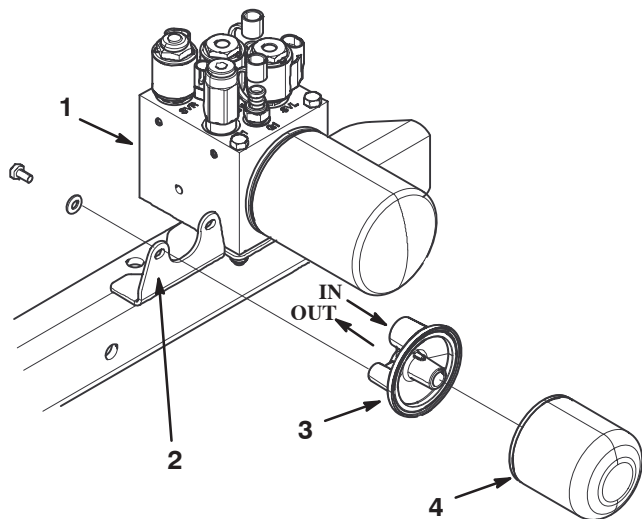

Figure 4
- Remove 5/16-18 x 4.50" cap screws and locknuts securing manifold to frame (Fig. 4).
- Secure manifold and new filter bracket with 5/16" x 5.00" cap screws and locknuts (Fig. 4). (new filter bracket mounts under the manifold frame plate)
- Install new filter head (103-2888) to filter bracket with 1/4-20 capscrews and washers (Fig. 4). (inlet port orientated to the top side)
- Install new filter (1-633750) to filter head (Fig. 4).